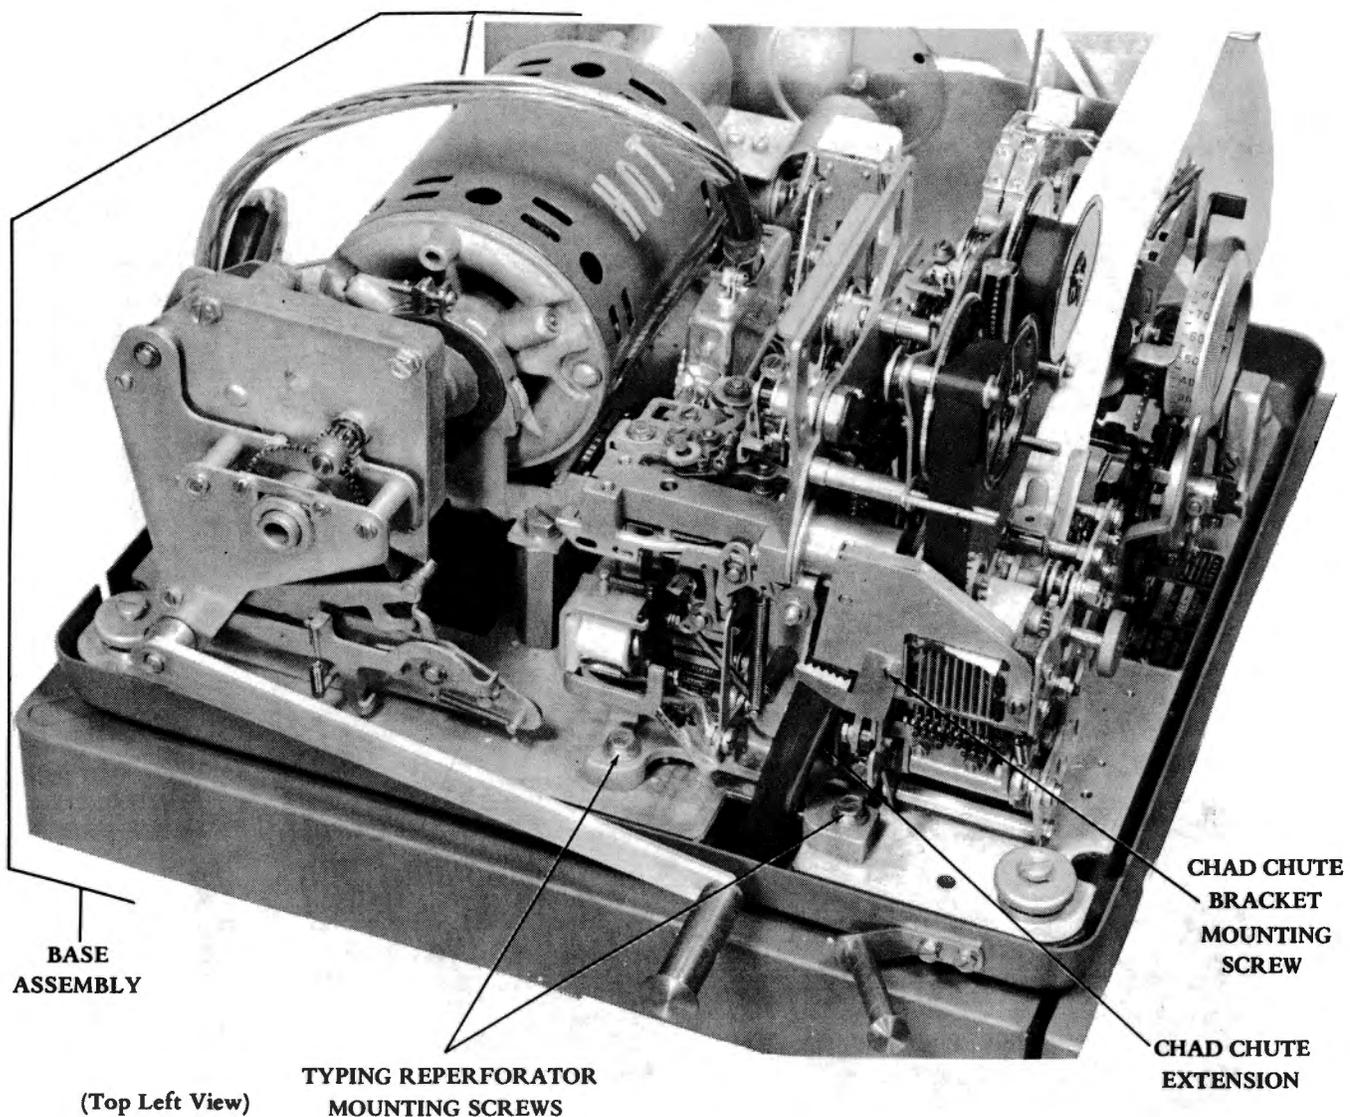

Figure 4 - Cover Removed Showing all Components
2.07 To remove the base assembly (Figures 4, 5 and 6), proceed as follows.